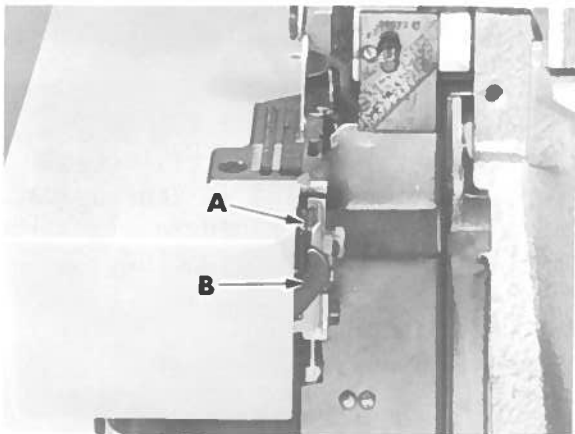

Fig. 25
2. Lift presser foot and pull entire thread chain off stitch tongue; swing chain sideways and around under presser foot, down into chain clamp (A, Fig. 25) (tension discs), cutting off excess chain at knife (B).